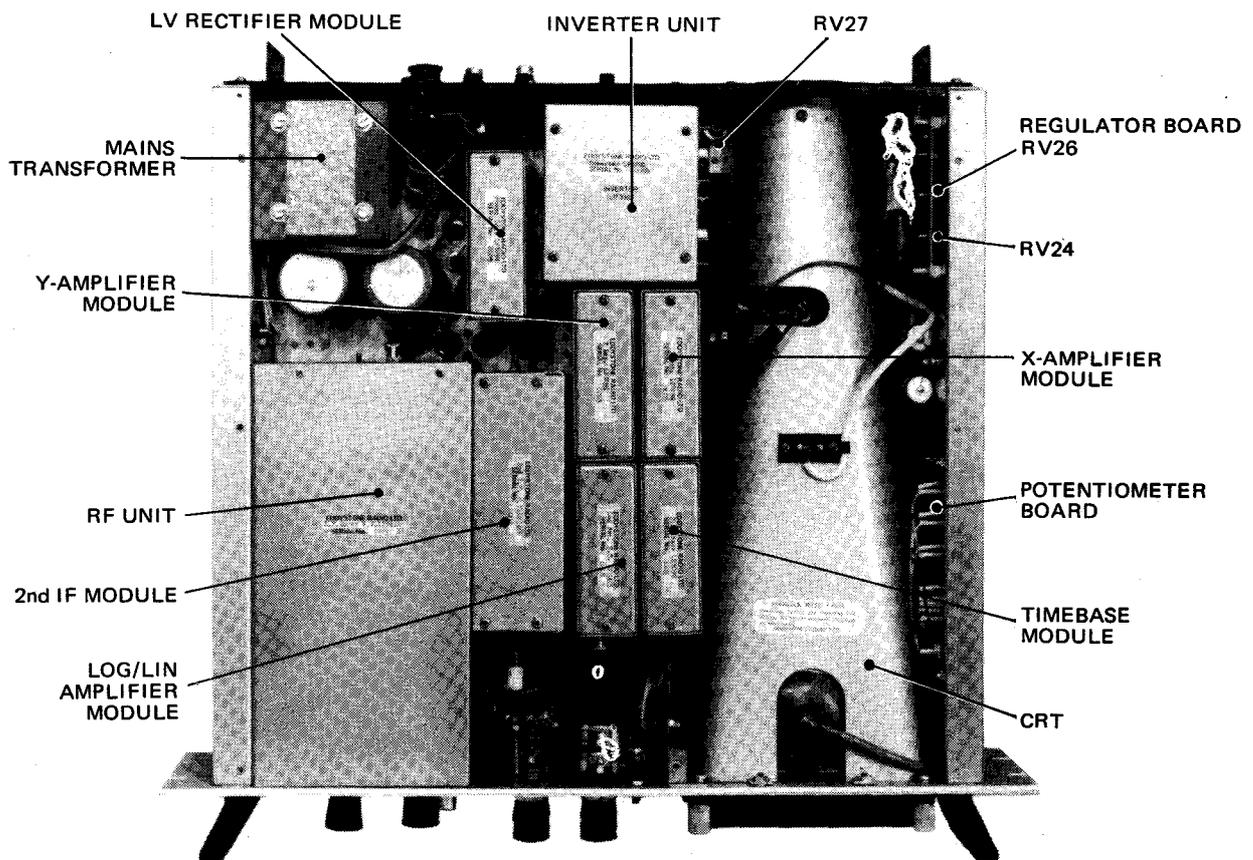

Fig. 6
2. Remove metal screen over the R.F. Unit (see Fig. 6) by unscrewing the four retaining screws on the left-hand side.
1. Adjust Twist Coil Potentiometer (RV24 on Regulator Board, see Fig. 6) to set baseline horizontal. If necessary, reverse Twist Coil leads to change field polarity.
Refer to Fig. 6 for location of modules etc.